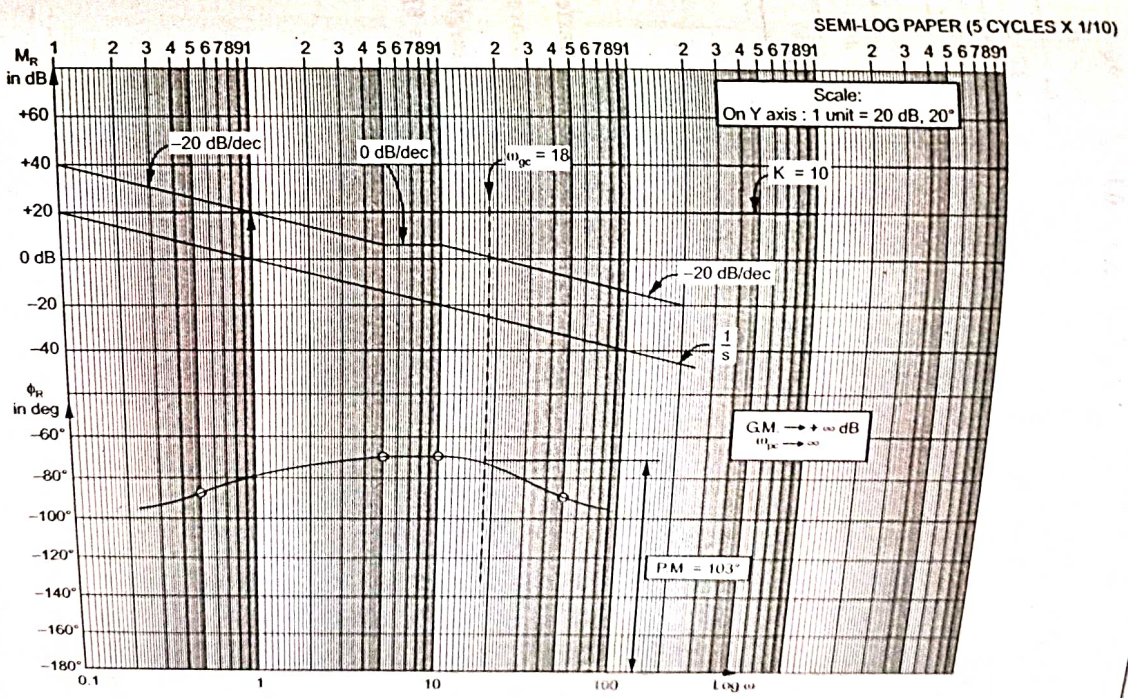

Fig. Q.16.1
Step 4 : The Bode plot is shown in the Fig. Q.16.1.